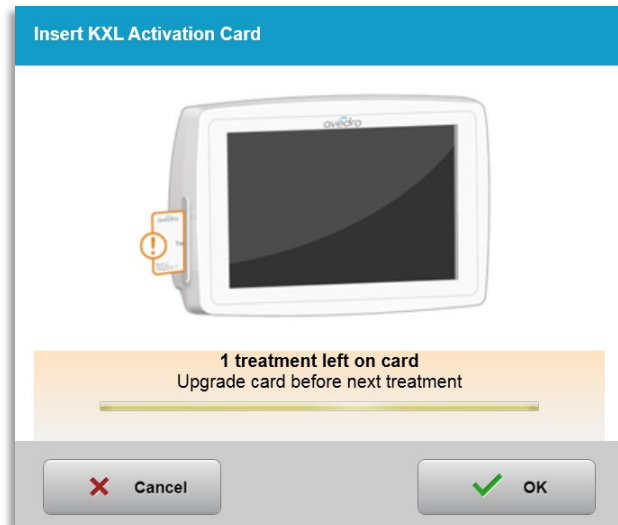

Figure 3-11. Card Treatment Balance
- The user will be alerted that only 1 treatment remains on the card as shown in Figure 3-11.
- If treatment card only has one treatment left, the system will inform user to “Upgradecard before next treatment” as shown in Figure 3-11.